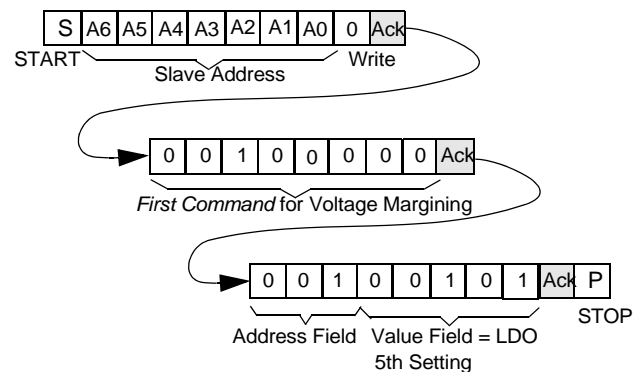
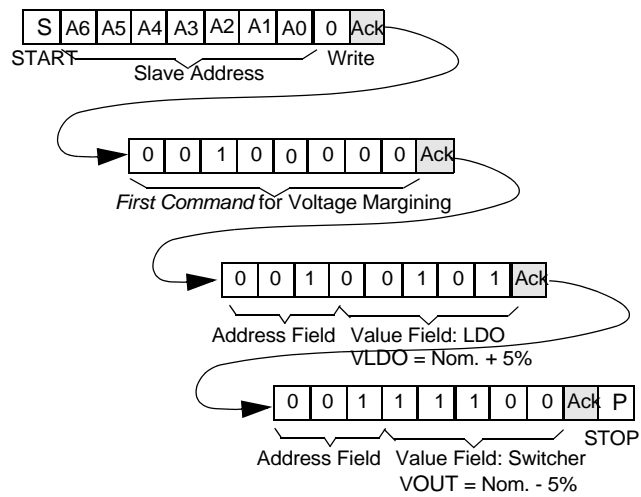

Figure 27. Data Transfer Example - LDO Voltage Margining
Figure 28. Data Transfer Example - LDO and Switcher Voltage Margining
Figure 27 illustrates a communication beginning with the slave address, the *first command* for voltage margining, and a third byte containing the address field 001 and the value field 00101 corresponding with the LDO fifth setting (LDO output voltage = +5% above its nominal value). If a simultaneous setting for switcher is needed, a fourth byte should be included before the STOP condition (P); for instance, 001 11100 to set the switcher in its twelfth setting (switcher output voltage = -5% below its nominal value) - see Figure 28.